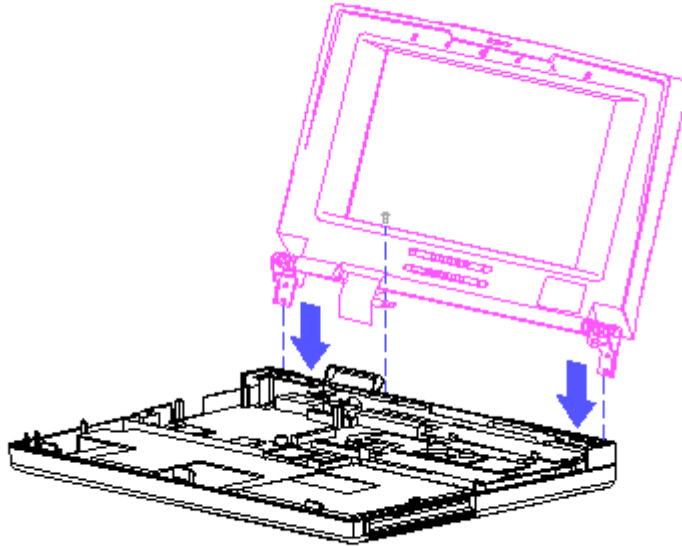

Figure 2-16. Aligning the Display Clutches with the Base Enclosure
1. Position the display panel by aligning the display clutches with the base enclosure (Figure 2-16).